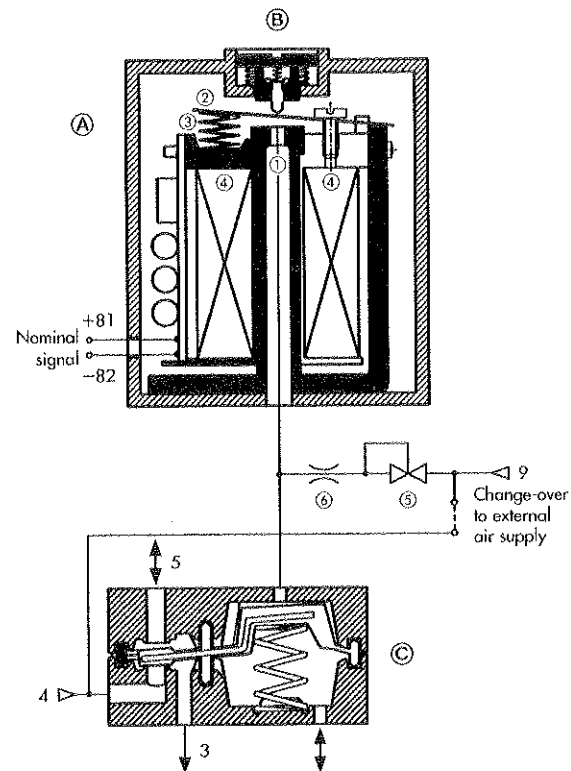

Fig. 16 - Solenoid valve with diaphragm element (K_{vs} value 0.16)
The solenoid valves consist of an E/P binary converter (A) with manual override (B) (optionally) and a single-actuated booster valve (C) with return spring (Fig. 16).